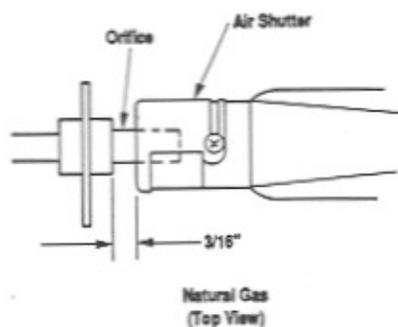

Figure 39
*Note: For propane use, air shutter must be open 1/4 inch (Figure 39).*
The air shutter for propane has been set in the half open, or 1/4" opening (Figures 39 and 40).